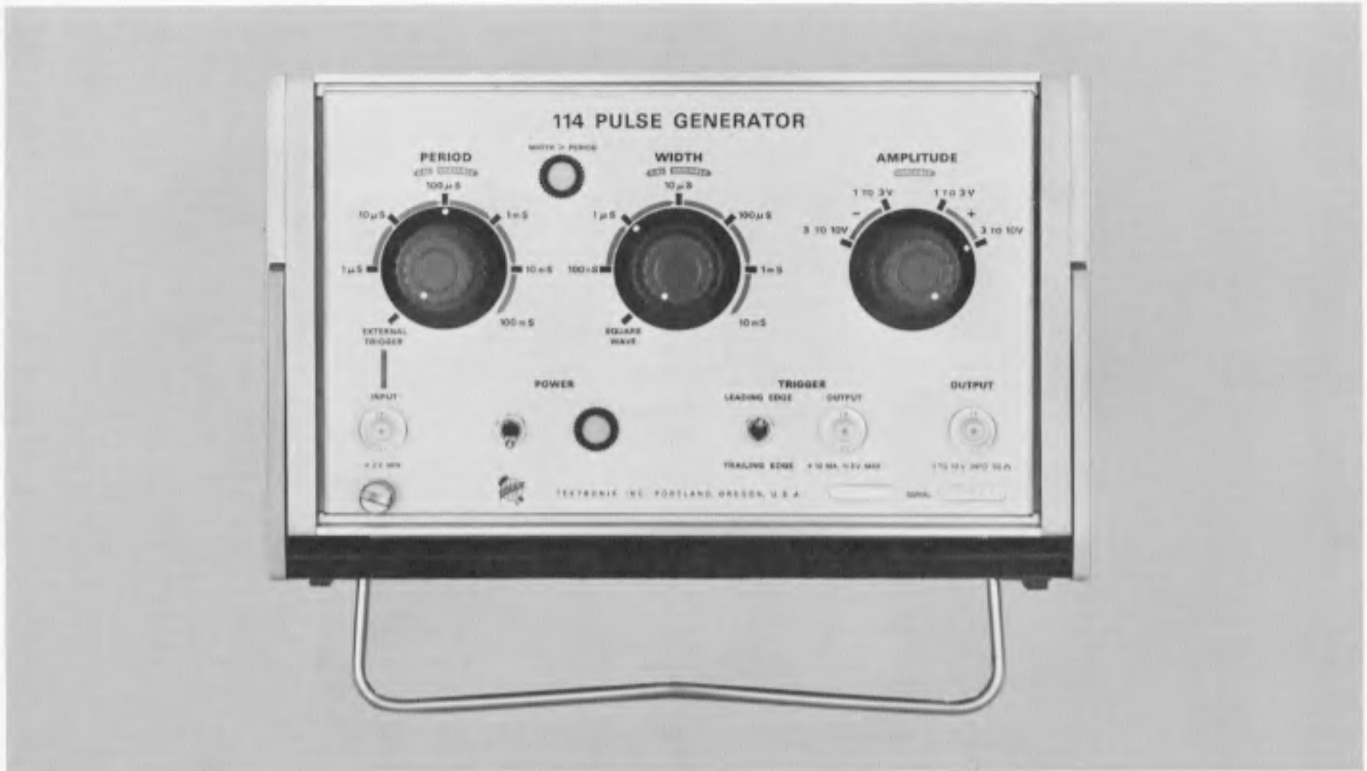
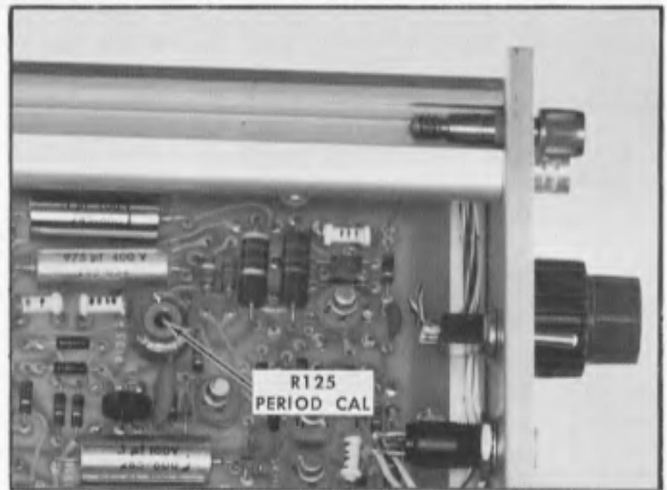
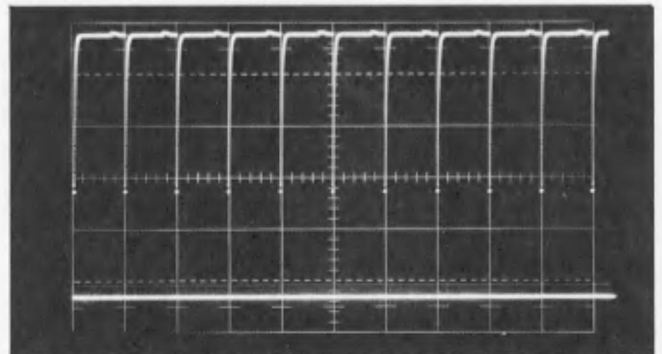

Fig. 4-5. Control settings for PERIOD CAL adjustment.
Fig. 4-6. Location of PERIOD CAL control R125.
Fig. 4-7. Crt display showing correct adjustment of PERIOD CAL control.
a. Set the Type 114 WIDTH — VARIABLE control to CAL. Turn the WIDTH control to $1 \mu\text{s}$ and the PERIOD control to $100 \mu\text{s}$ (see Fig. 4-5).
e. Set the Type 547 HORIZONTAL DISPLAY switch to B. Set the TIME/CM (B) switch to $.1 \text{ mSEC}$. Set the TRIGGERING-SOURCE switch to INT-NORM, the SLOPE switch to —, and the MODE switch to TRIG. Adjust the TRIGGERING LEVEL control for a stable display of the 100 microsecond markers from the Type 180A.
g. Adjust the PERIOD CAL control R125 (see Fig. 4-6) so that the corresponding pulses in the two traces are aligned horizontally to within $\frac{1}{2}\%$ (see Fig. 4-7).
d. Set the Type 547 TIME/CM (B) switch to 10 mSEC and adjust the TRIGGERING LEVEL control for a stable display.
e. Check for horizontal alignment between the two sets of markers (see Fig. 4-7). Horizontal alignment should be within 3%.